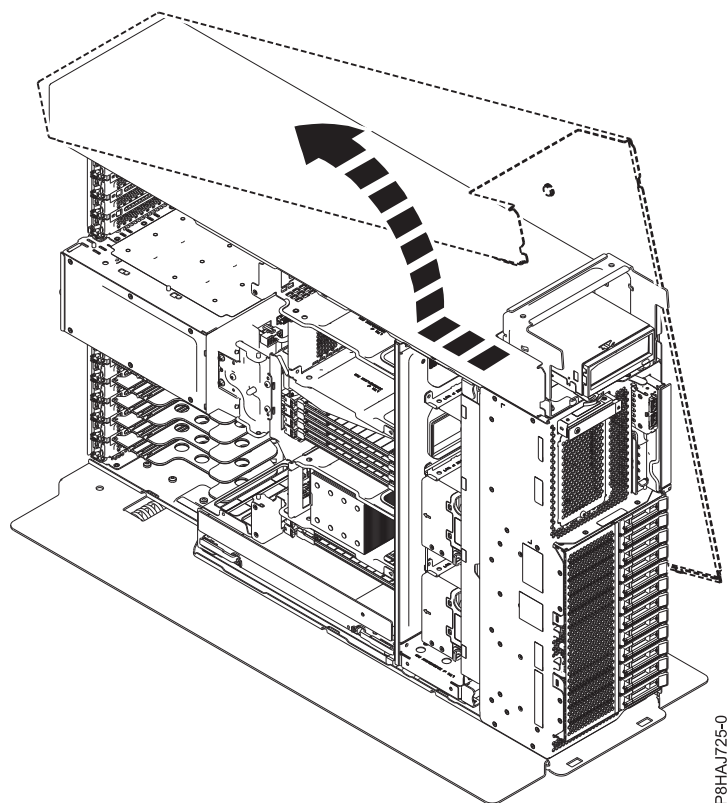

Figure 11. Removing the 8286-41A side cover
5. Slide the side cover off of the system in the direction that is shown in Figure 11 on page 30.